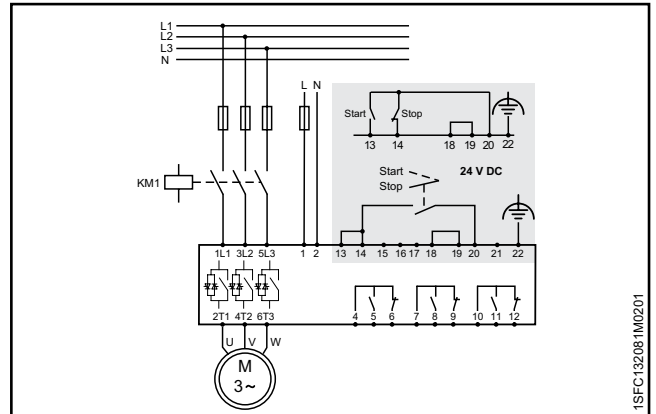

Figure 2.5
- Look at the diagram, see **Figure 2.5**, and connect the start/stop circuits: terminal 13, 14, 18, 19 and 20/21, with the internal 24V DC terminal. When you use internal 24 V DC (terminals 20 or 21), the terminals 18 and 19 must be connected to each other. For external control circuitry, see chapter **5.1.2.3 Start and Stop - terminals 13, 14, 18, 19, 20, 21**.